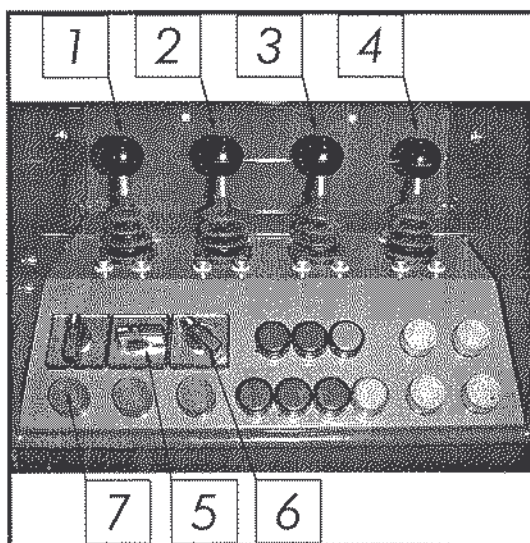

Figure 12-2
- Pressing the override switch (push-button No. 7, figure 12-2) by-passes the limit switches of the outriggers and the limit switch of the transport support of the booms.
2. Press the override switch (push-button No. 7, figure 12-2) and at the same time use the control levers 1,2 and 4 (figure 12-2) to guide the booms. The booms can be raised to three metres (measured from the bottom of the platform) and turned slightly. In addition, the jib boom can be guided limitlessly.
3. Release the foot pedal, and the control levers 1,2,3 and 4 (figure 12-2) will function as control and driving levers of the MEWP. Now you can drive and steer the MEWP past the obstruction. Note that the override switch shall be pressed also during driving, because the booms are not on the transport support.
4. Press down the foot pedal, and the levers 1,2 and 4 (figure 12-2) function again as control levers of the booms. Drive the booms on the transport support and continue driving normally.